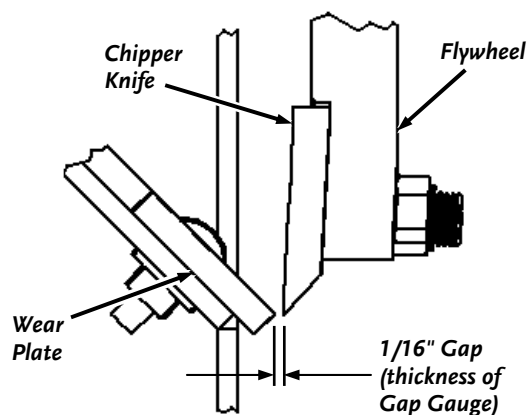

Figure 42
- Note:** See **Figure 42** for a more detailed look at the relationship of the Knife to Wear Plate.